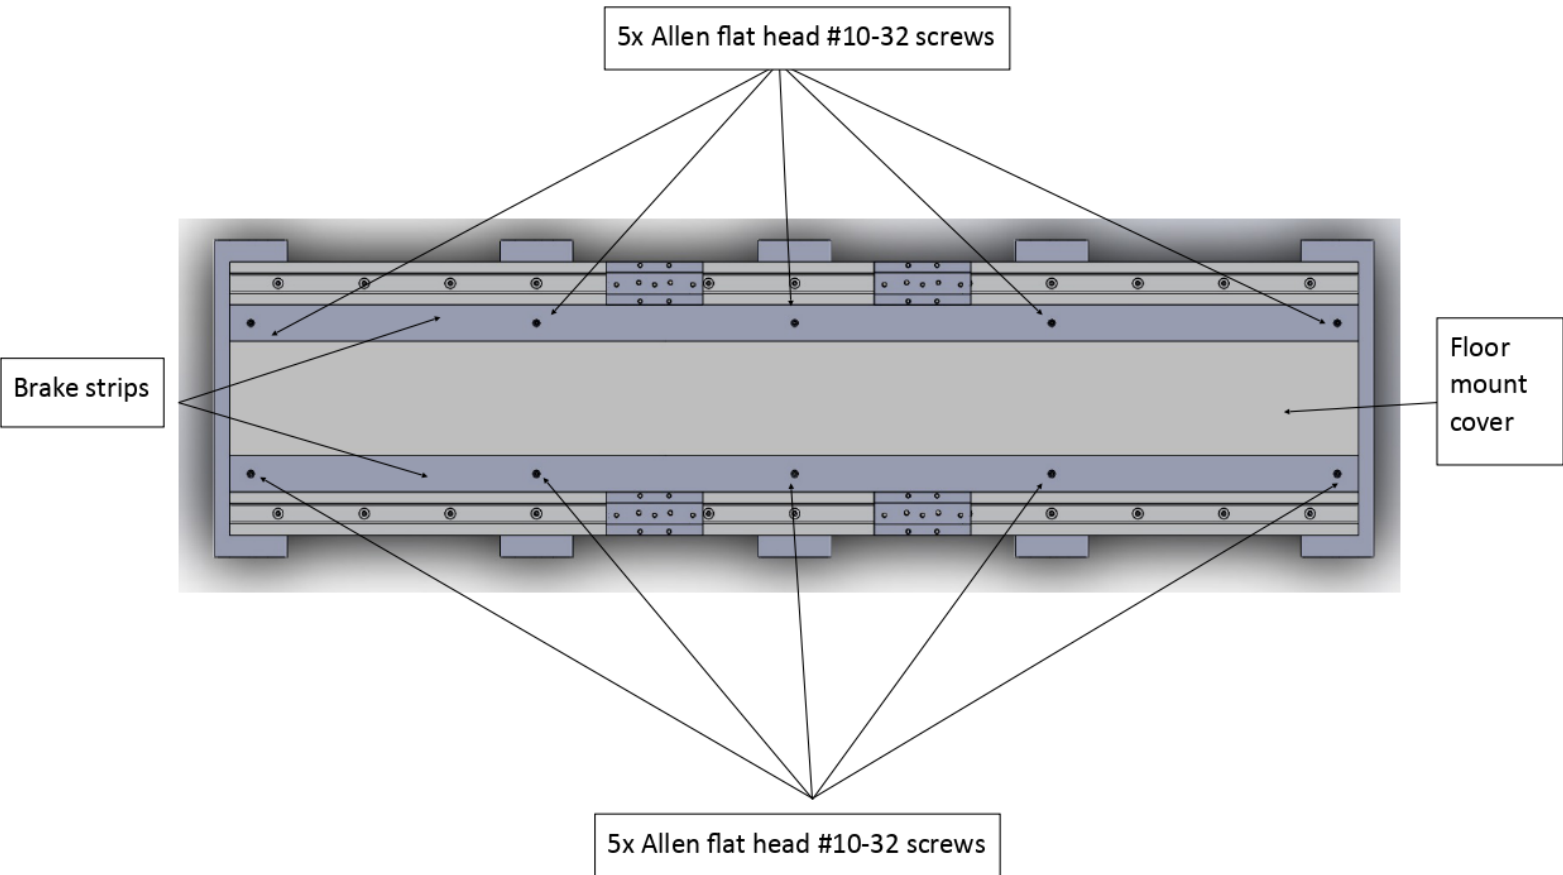

Figure 1: take the bare strips and the floor mount cover
9. Place the top cover and the 2 brake strips using the provided screws. (refer to figure 1)